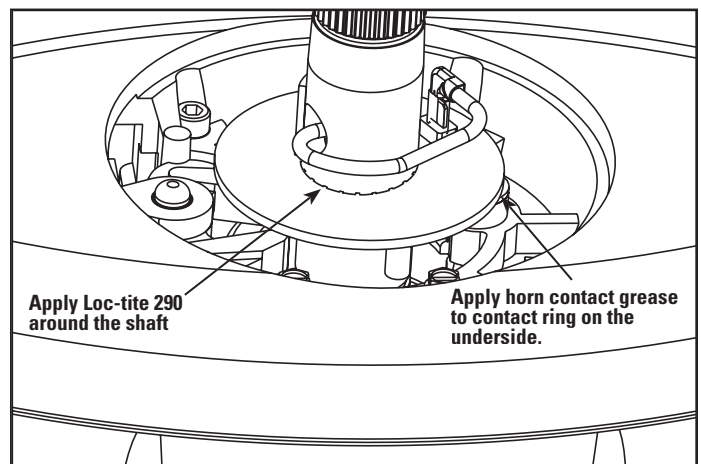

Figure 3
8. Apply Loc-tite 290 (provided in kit) between the shaft and the plastic contact ring at the top of the ring. Allow the Loc-tite to wick into the full circumference of these parts. Take care that any excess does not run down the shaft to the bearing area. Wipe off any excess with a clean rag. Apply fresh horn contact grease (provided in kit) to the underside of the contact ring. (Figure 3)